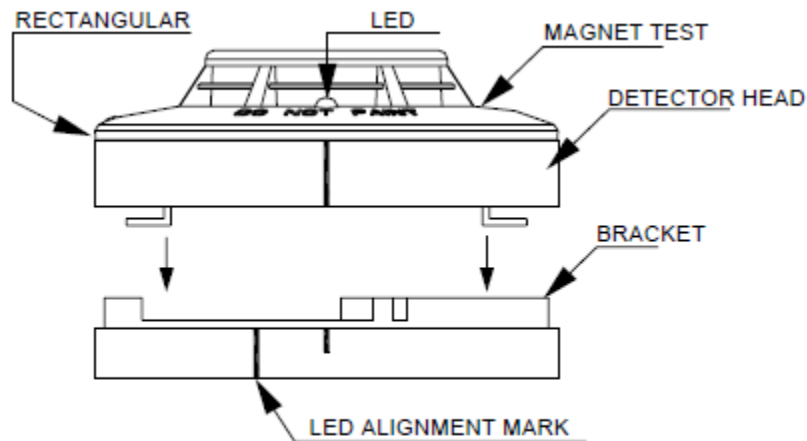

Fig. 4 Schematic of installing the base
2. Secure the base to the electrical box with two 8-32 pan-head, zinc-plated steel screws (not supplied), as shown in Fig. 4.
2. Use a screwdriver to push up the rectangular hole located on the side between the front cover and base to remove the front cover on the detector (see Fig. 4)